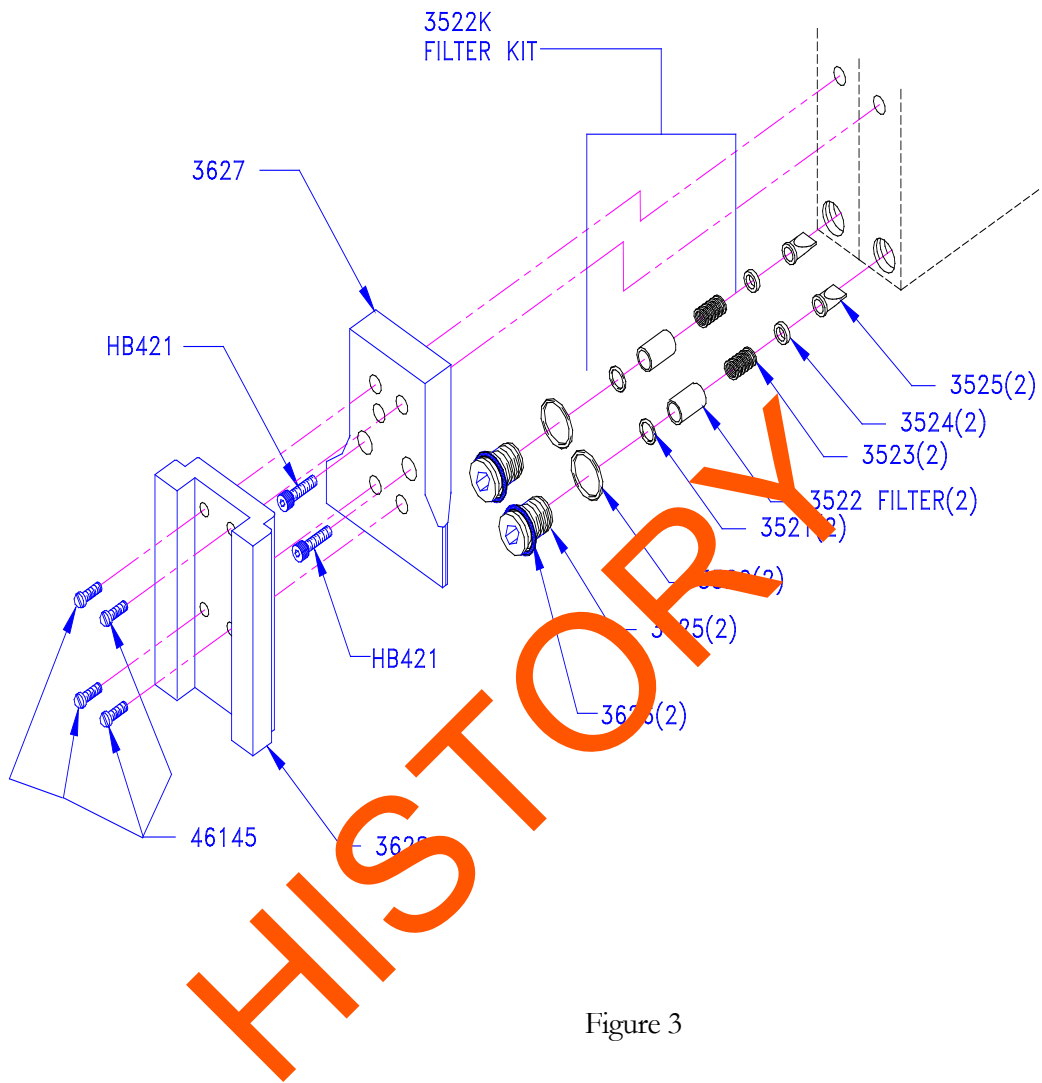

Figure 3
- Replace the internal sintered stainless steel filters (P/N 3522K in Figure 3) at least every 6 months or as needed.